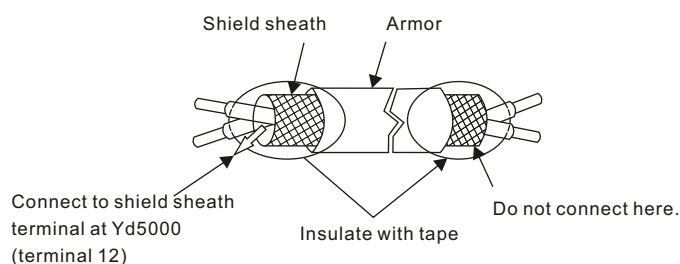

Fig 3.21 Processing the Ends of Twisted-pair Cables
- Use twisted-pair or shielded twisted-pair cables for control circuits to prevent operating faults. Processable ends as shown in Figure 3.21.